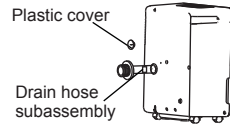

Fig.10
- Remove the plastic cover from the back drain outlet of the unit and set aside and remove bucket, then insert the drain hose through the drain outlet of the unit and securely press it into the connector on the front of the unit. (See Fig.10 and Fig.11)